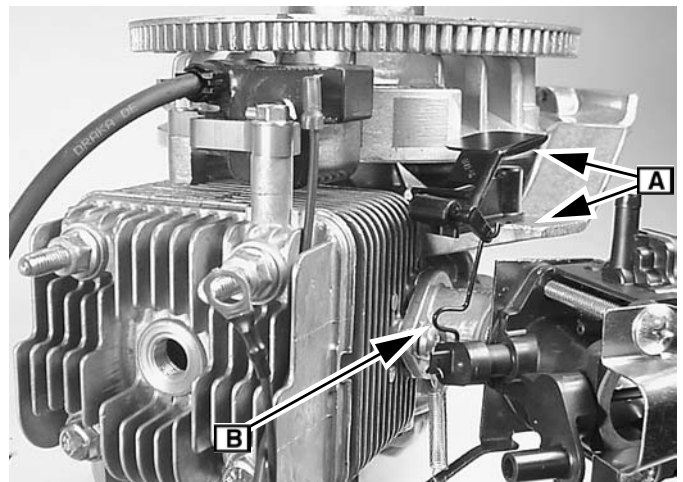

Fig. 82
1. With linkage and governor spring installed, check the distance between the edge of the air vane and cylinder casting as shown (**A** Figure 82).